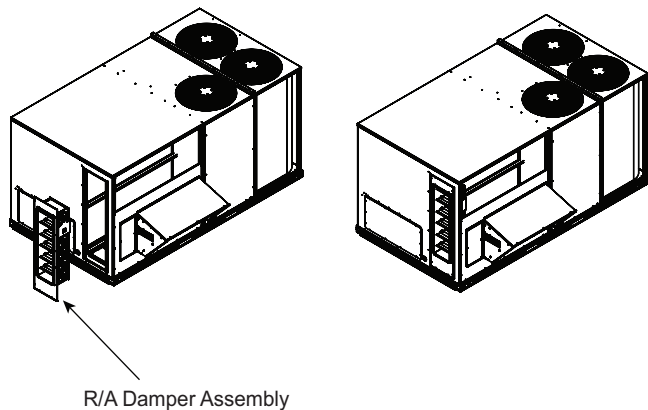

Fig. 4 — Install R/A Damper
6. Attach the R/A damper assembly into the horizontal return duct opening using the provided screws. (See Fig. 4.)